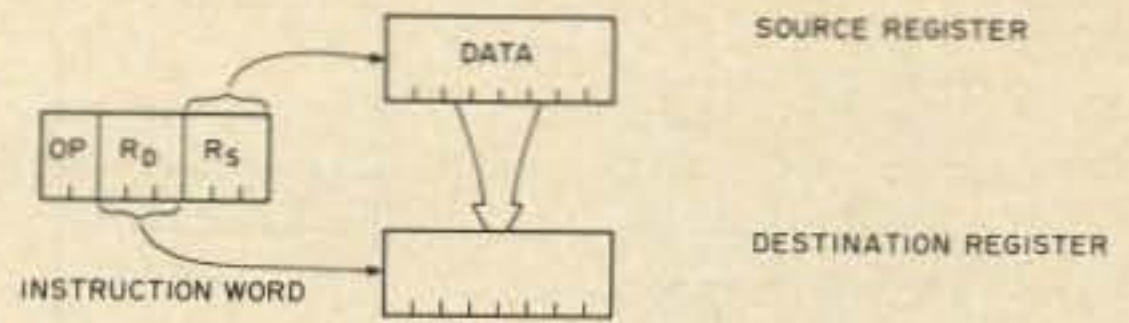

Fig. 4. Register addressing (8080).
**Register.** The data for the instruction is in one of the CPU registers. This is usually the fastest addressing mode, and requires the fewest bits, as illustrated in Fig. 4.